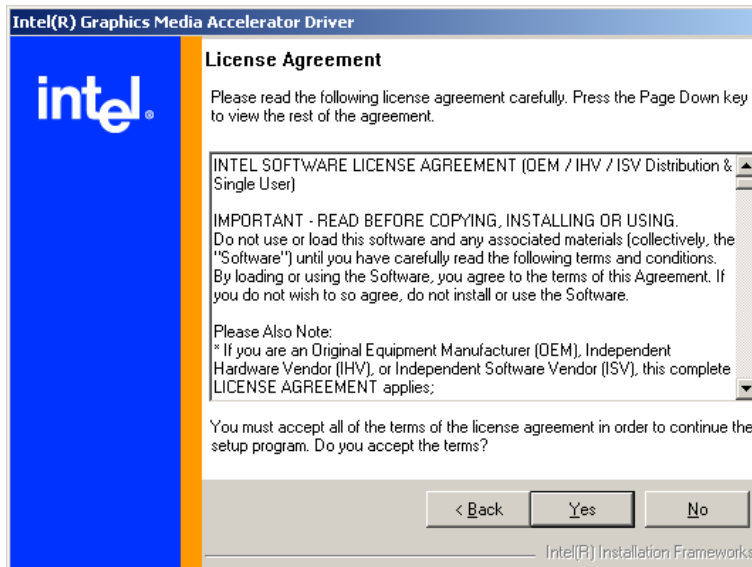

Figure 7-13: Intel® Graphics Media Accelerator Driver License Agreement
Step 11: Click **NEXT** and a license agreement appears (Figure 7-13).